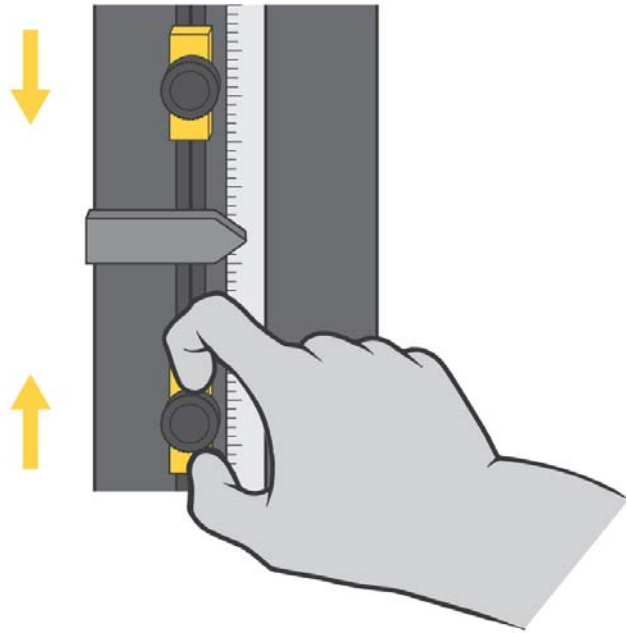

Figure 31. Setting Limit Stops
The crosshead limit stops are two adjustable blocks mounted on the limit switch rod, which is located inside the column of the machine, as shown in Figure 31 on page 129. Limit stops (1 and 2) have thumbscrews that you tighten and release by hand, and you can move them to any position on the limit rod. Position these stops just beyond the test parameters to prevent crosshead over-travel. When the crosshead reaches the maximum pre-set travel, the limit switch actuator (3) contacts one of these